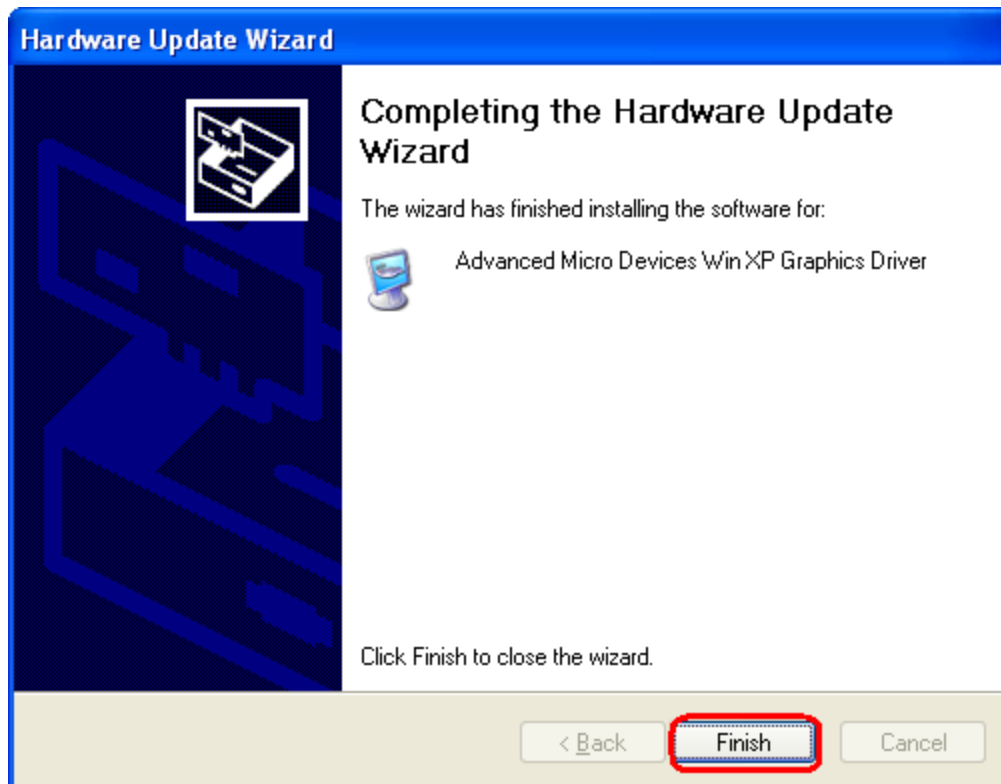

Figure 7-23: Audio Driver Installation Complete
Step 14: When the driver is installed, the screen in **Figure 7-23** appears.
Step 15: Click the Finish tab in to complete the **Figure 7-23** installation.